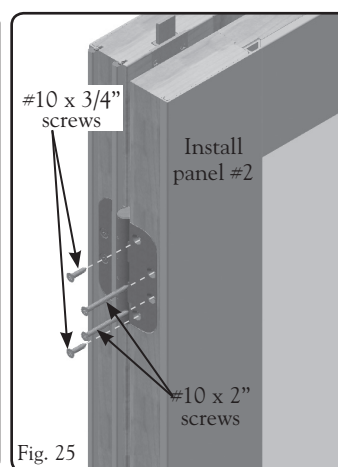

Fig. 25
- See Fig. 25. Attach install panel #2 to install panel #1 using the supplied screws at each hinge location on the exterior folding side.